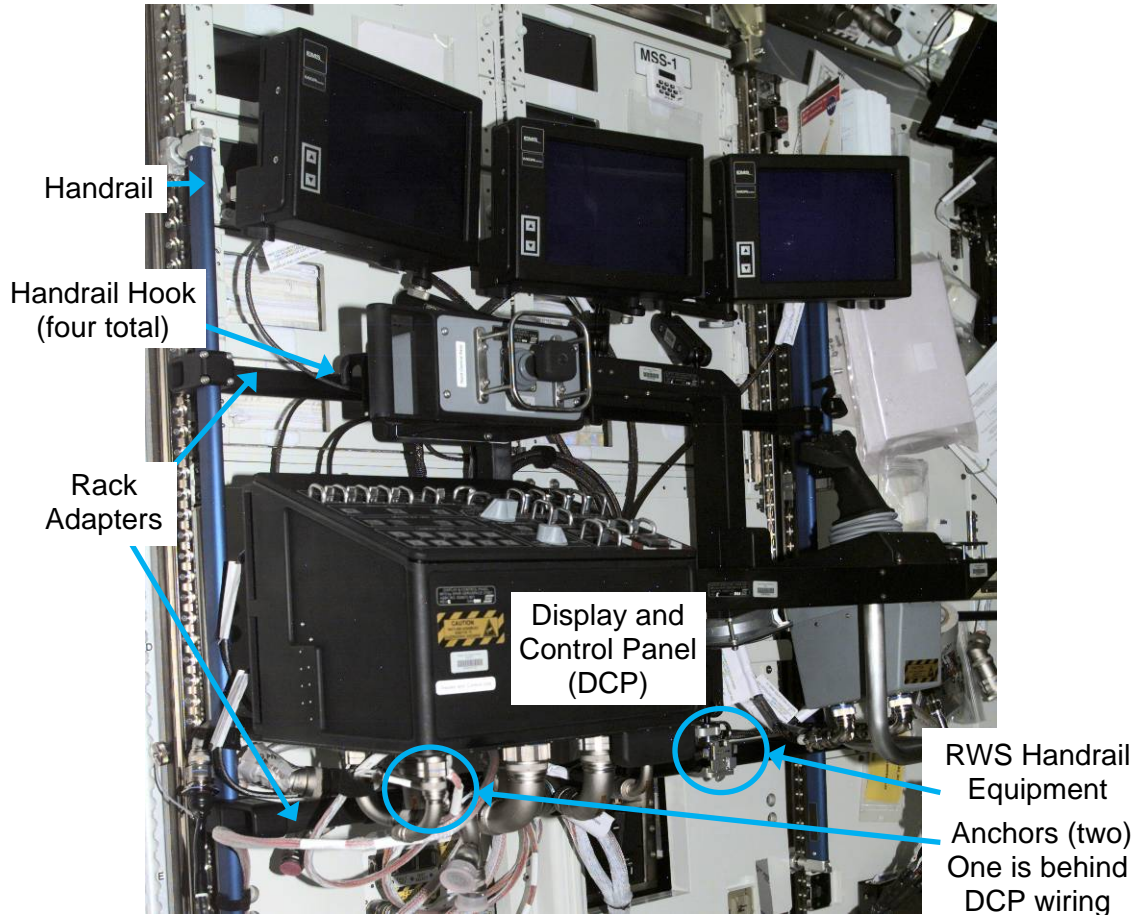

Figure 13.- Cupola RWS (LAB1S5).
- 3.10 Inspect if there is cabling running behind Rack Adapters that needs to be demated, rerouted, then remated to ensure that all cables are free from Rack structure and ready for translation with RWS. Refer to Figure 13.
- 3.13 Detach all Velcro Ties from Rack Adapters or Handrails. Velcro Ties should remain wrapped around wires for use at Cupola location. Refer to Figures 13 and 14.
Refer to Figure 13.
Refer to Figures 13 and 18.